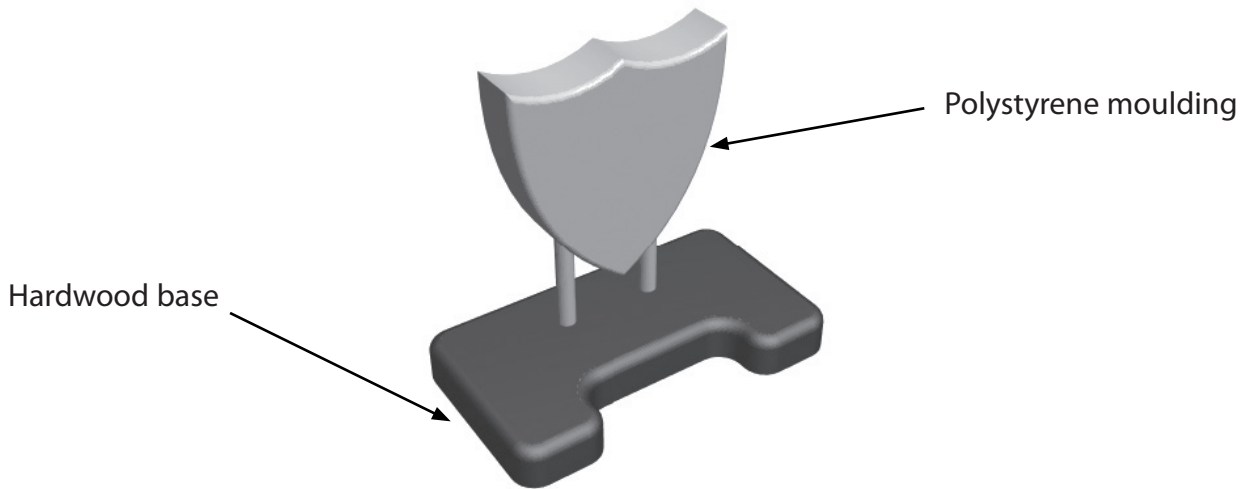

Figure 2
- 4 Figure 2 shows an image of a trophy made up of a polystyrene moulding and a hardwood base.